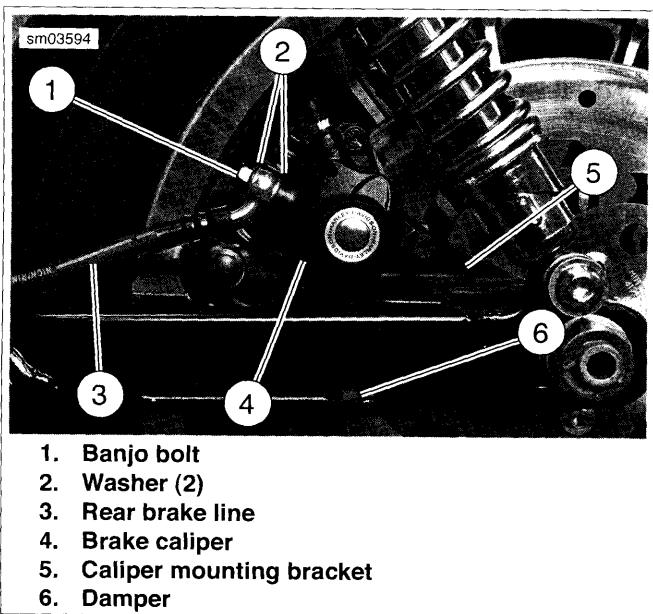

Figure 2-106. Rear Caliper Assembly
4. See Figure 2-106. Position a **new** washer (2) on each side of hydraulic brake line (3) banjo fitting. Insert banjo bolt (1) through washers and fitting. Thread bolt into caliper housing. Tighten to 20-25 ft-lbs (27.1-33.9 Nm).